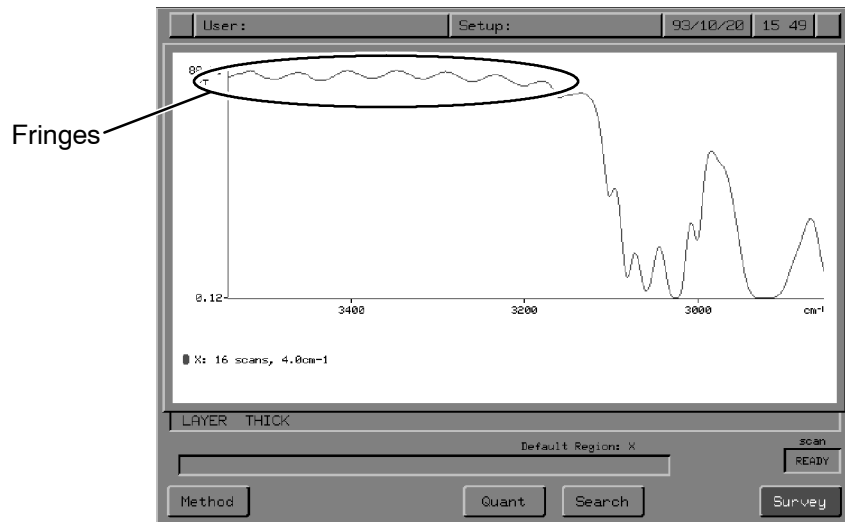

Figure 3-54 Fringes in the Spectrum of a Layer
Parallel-sided samples often produce spectra that have a sinusoidal variation in transmission. This variation is called a *fringe* or *channel spectrum* (Figure 3-54), and is caused by interference between the principal beam transmitted through the sample and a second beam caused by multiple reflection within the sample. Transmission is strongest when the extra optical path taken by the reflected beam is a multiple of the wavelength. If you know the spacing of the fringes and the refractive index of the sample, its thickness can be calculated; if you know the spacing and the thickness, its refractive index can be calculated.
- $\nu_1 - \nu_2$ = the wavenumber interval, in cm^{-1} , over which fringes in the spectrum are being counted (Figure 3-54). **Layer** uses the absolute value of this interval, so the two numbers can be entered in either order.